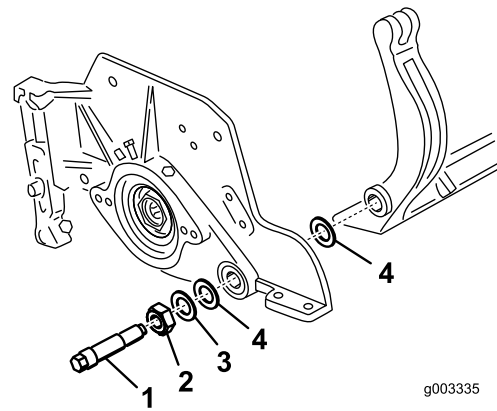

**Figure 27**
3. On each side of the machine, loosen the locknut securing the bedbar bolt (Figure 27).
4. Remove each bedbar bolt, allowing the bedbar to be pulled downward and removed from the cutting unit (Figure 27).